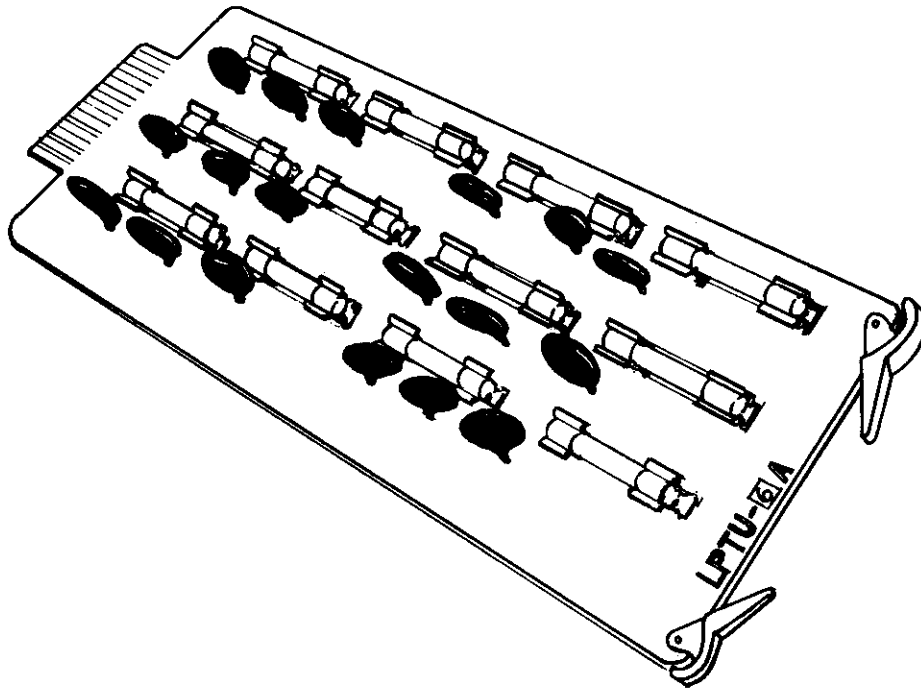

Figure 7-6 LPTU-6A PCB, EK-616
- (e) A fifth circuit board, the **LPTU-6A** (Figure 7-6), is plugged into the KSU for CO line fuse and surge protection.